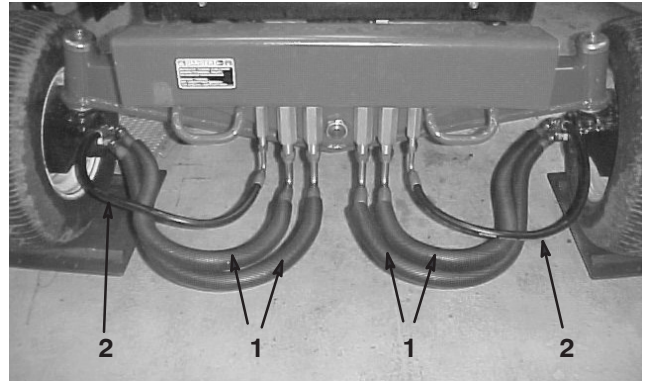

Figure 6
3. Install the hoses from the wheel motors to the rear bulkhead assembly (Fig. 6).